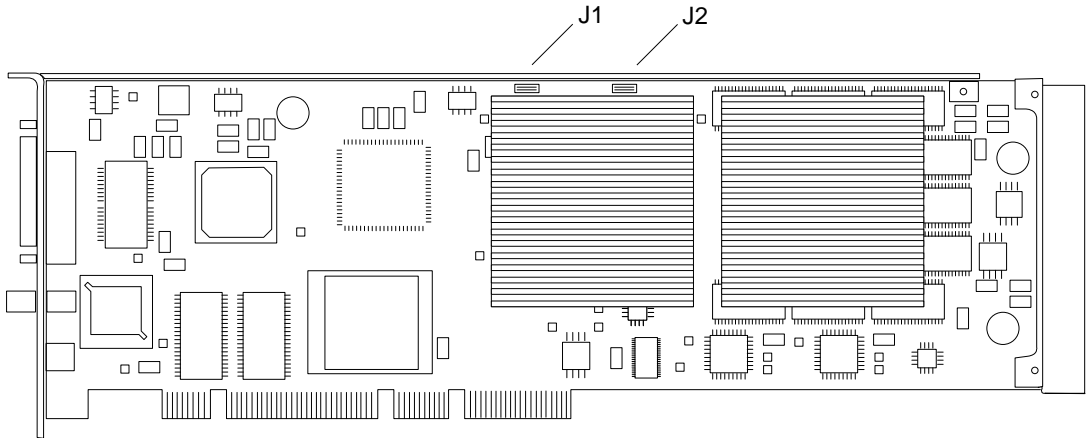

FIGURE A-3 Expert3D Multiview-In and Multiview-Out Connectors
3. Connect the frame lock multiview cable to each Expert3D graphics card (FIGURE A-3).